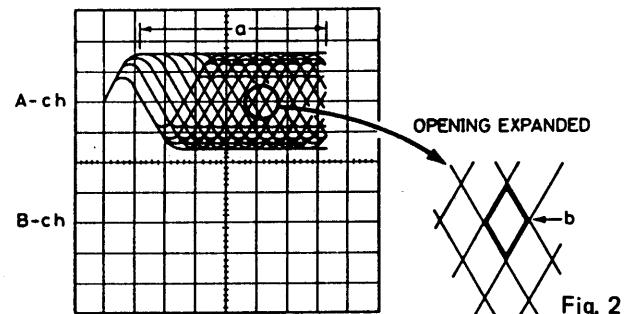

Fig. 2
- i Now check that area "a" of the TP1 (RF signal) waveform on the oscilloscope is configured as a straight line and that the openings at area "b" (mesh pattern) have expanded (see Fig. 2). Also check that the peak value is at its maximum.